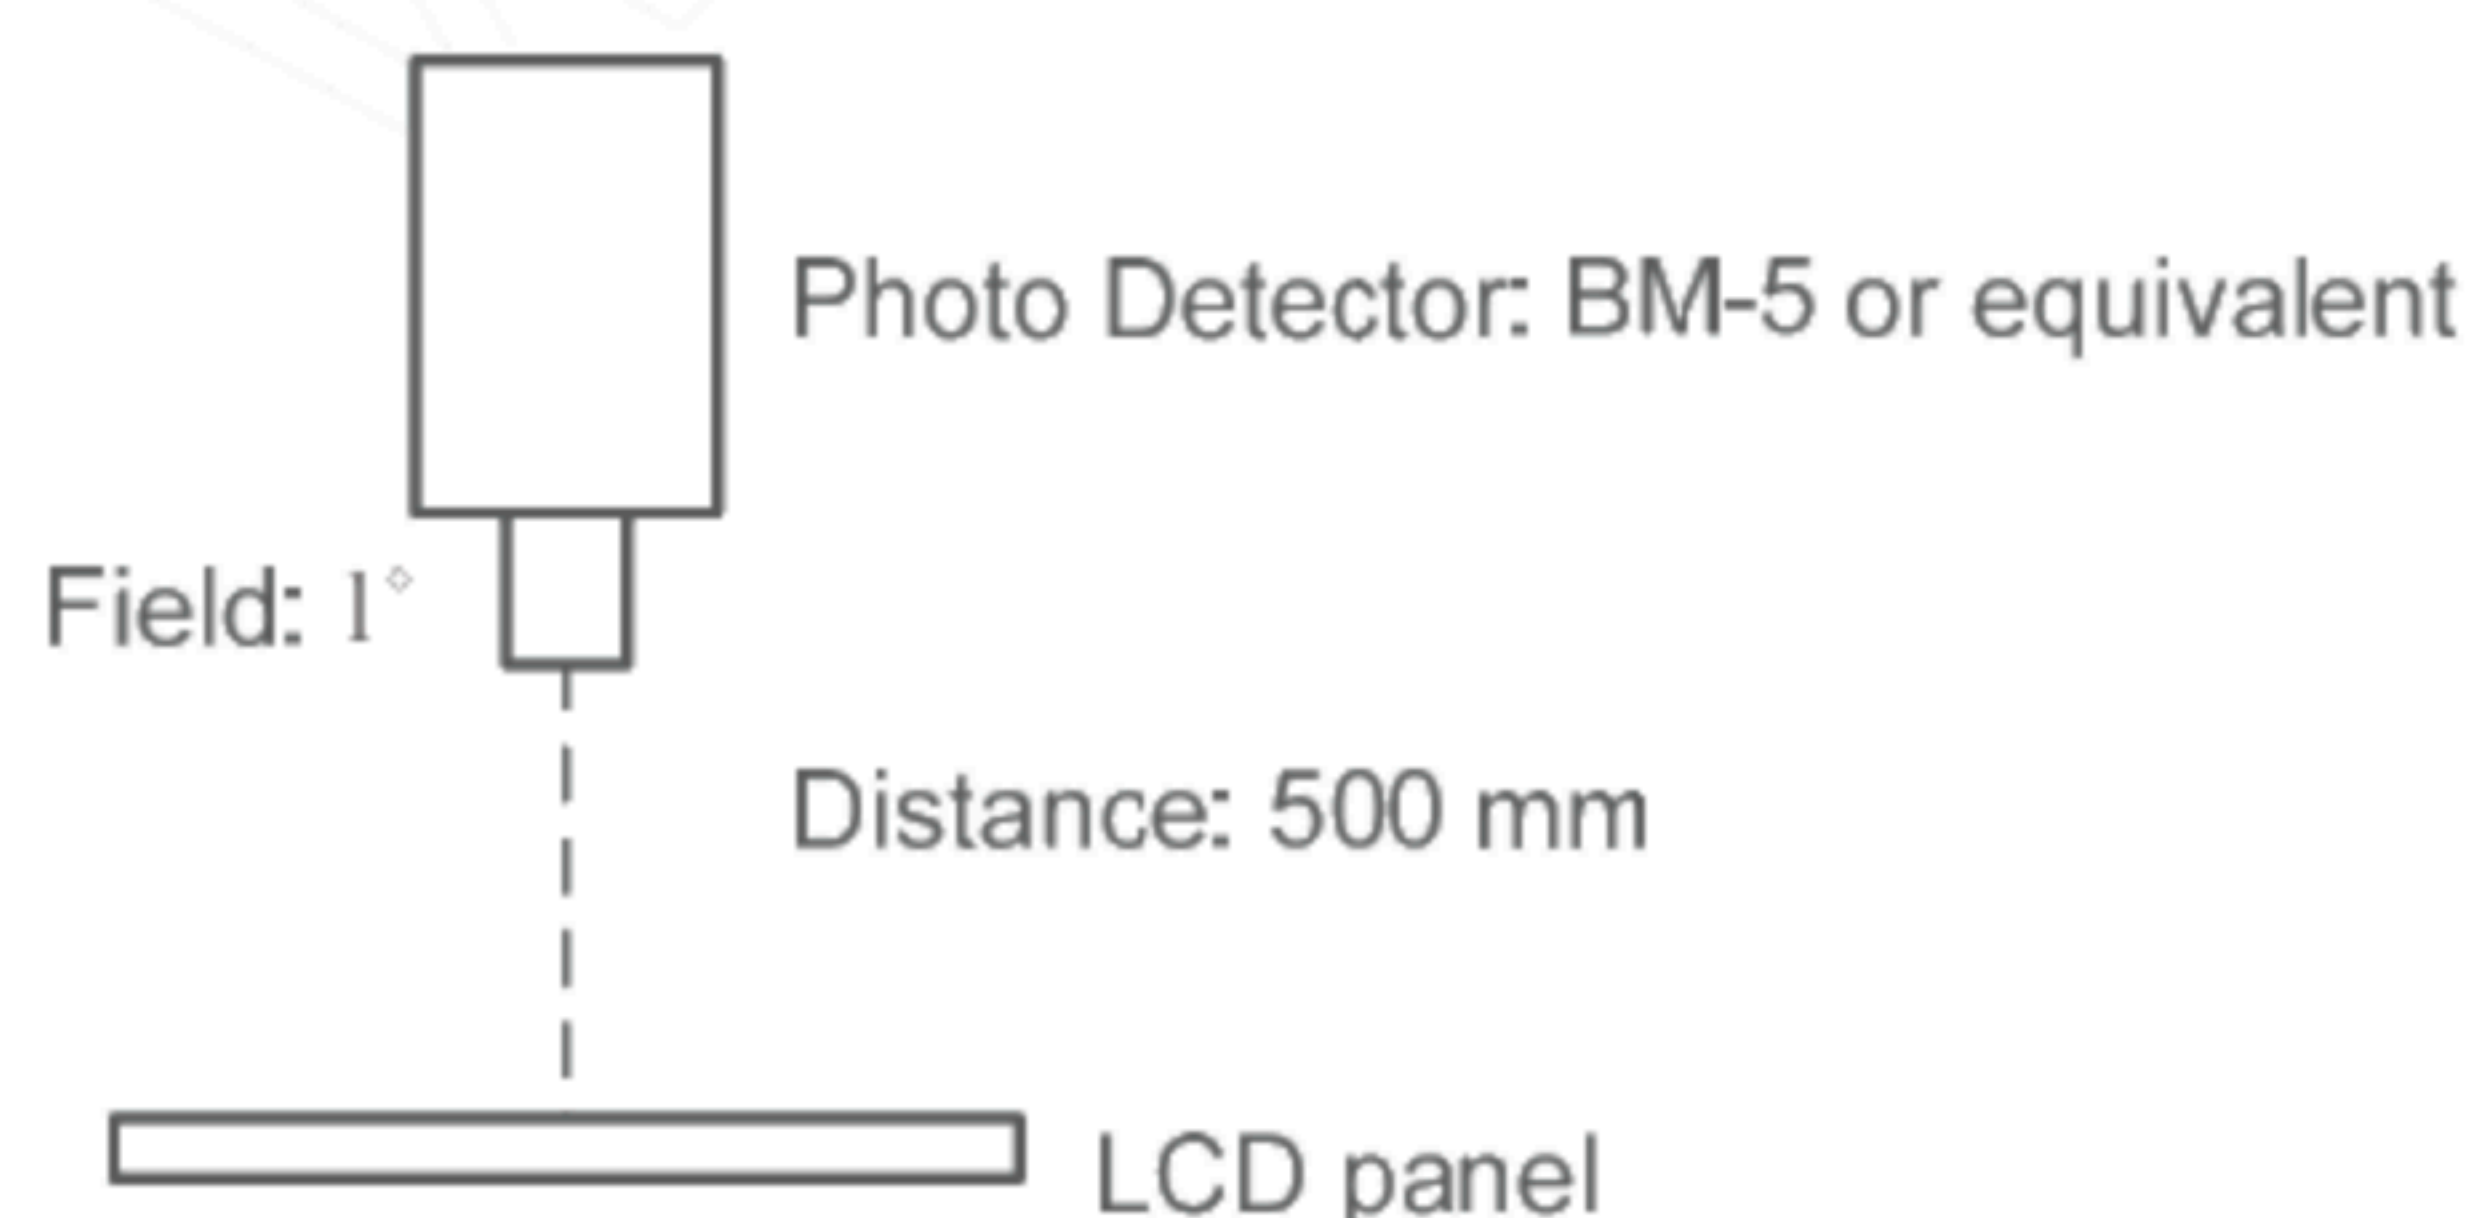

Fig 6.1
- In the dark room around 100 lx, the equipment has been set for the measurements as shown in Fig 6.1.